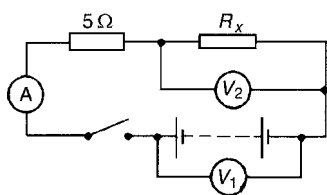

Figure 5.10
- When the switch in the circuit in Fig. 5.10 is closed the reading on voltmeter 1 is 30 V